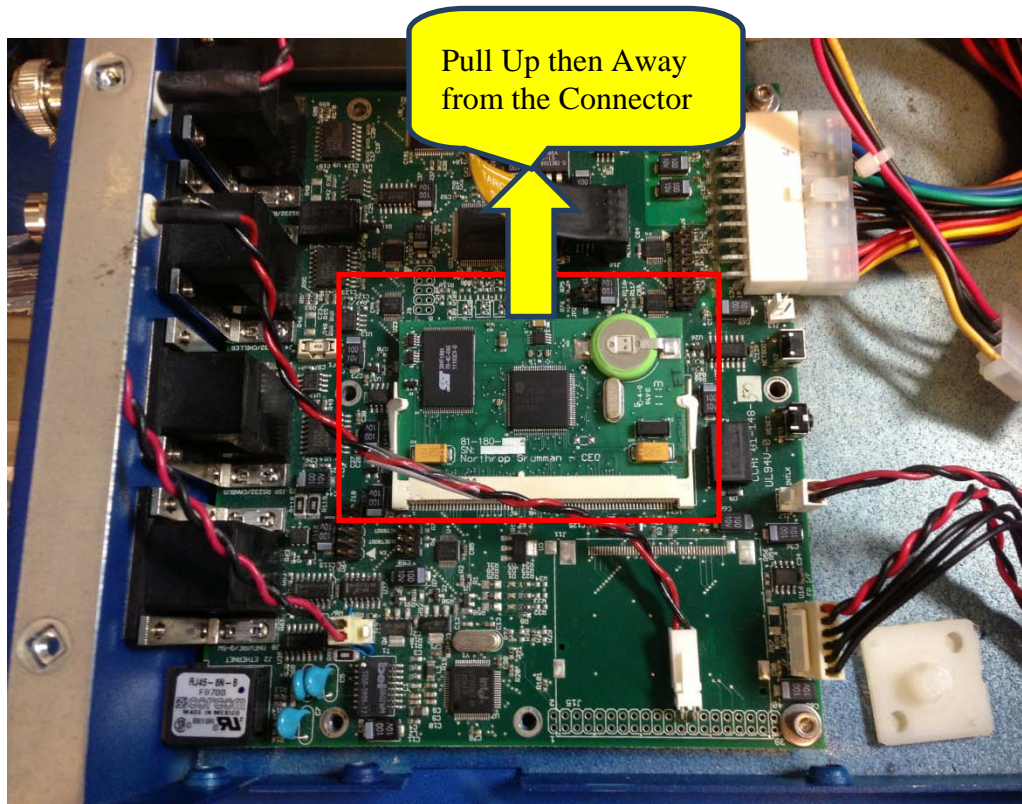

Figure 1, TINI Module
3. Free the TINI module by pulling outward on the two locking tabs. The TINI module will pop up from the socket. See Figure 1